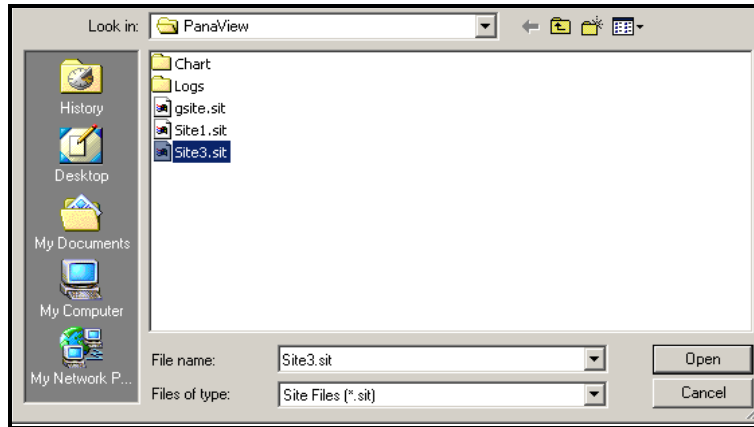

Figure 29: Site File Selection
2. Then click on the Save Site to Meter button. A screen opens similar to Figure 29.
3. The *Site File Selection* window (Figure 29) opens. Highlight a site with the desired settings, and click [Open]. PanaView saves the site in the meter with the new name and the desired settings.
3. The *Site File Selection* window (Figure 29 on page 32) opens. Enter the desired site name (now with a .prt suffix) and click [Save]. PanaView displays a text version of the site, as shown in Figure 31.